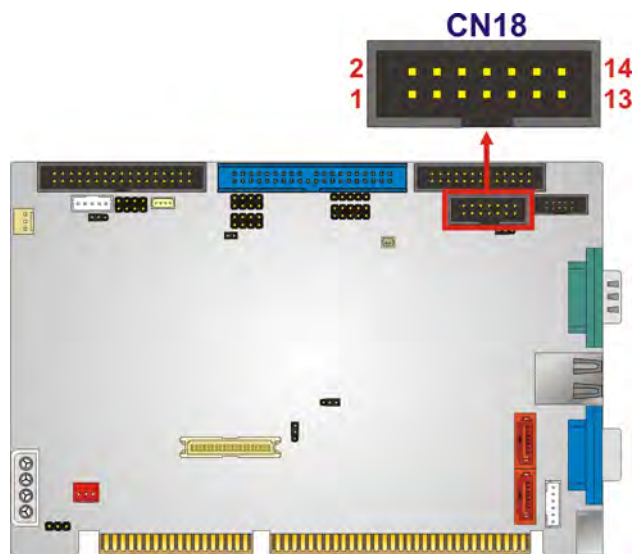

Figure 3-17: Internal Serial Port Connector Pinout Locations
- CN Location:** See Figure 3-17